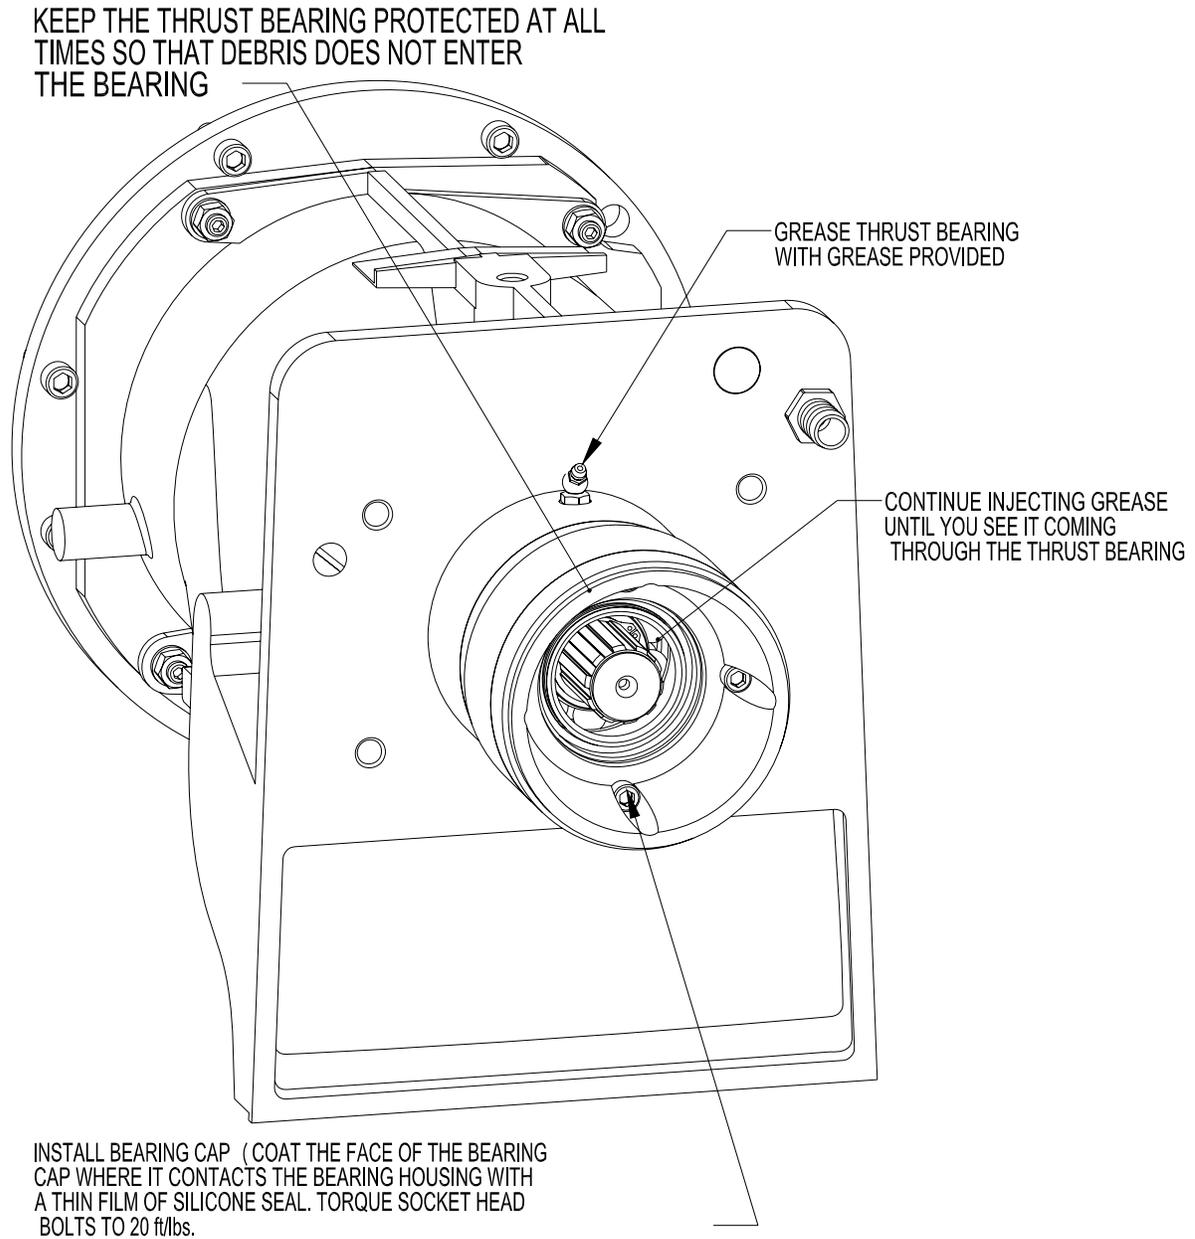

FIG 6
31. Install the bearing cap. Wipe a thin film of silicone seal on the face where it contacts the bearing housing. Torque the 5/16 socket head bolts to 20 ft/lbs. FIG. 6, PHOTO 14